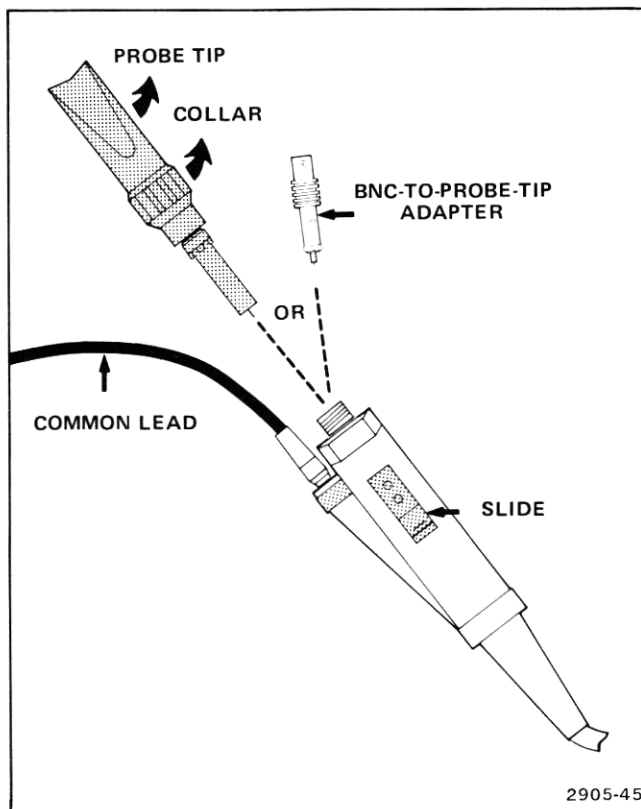

Figure 6-9. 1500-V probe tip adapter.
The 1500-V Input Probe tip may be replaced either with a new tip or with the special BNC-to-probe-tip adapter, which should be used **ONLY** for testing and adjustment. Refer to Figure 6-9 and perform the following steps:
2. Retract the slide to the position shown in Figure 6-9. The slide should stay in this position, and the spring inside the probe tip should cause the probe tip to return to its original position. If this does not occur, hold the slide in the retracted position and pull the probe tip away from the probe body until it reaches its original position.
11. While holding the probe body with one hand and the bnc-to-probe-tip adapter in the other, retract and hold the slide to the position shown in Figure 6-9.